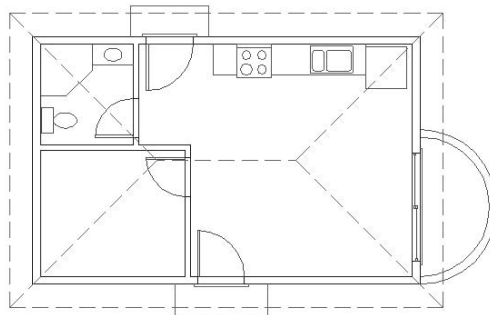

FIGURE 6.32: The completed roof
5. Start the Line command. Endpoint Osnap is still running. Pick the two intersections of the diagonal lines, and then press \downarrow . Open the Layer Control drop-down list and turn on the Doors layer. Then click the roof layer to close the drop-down list. This completes the ridge-line and finishes the roof (see Figure 6.32).